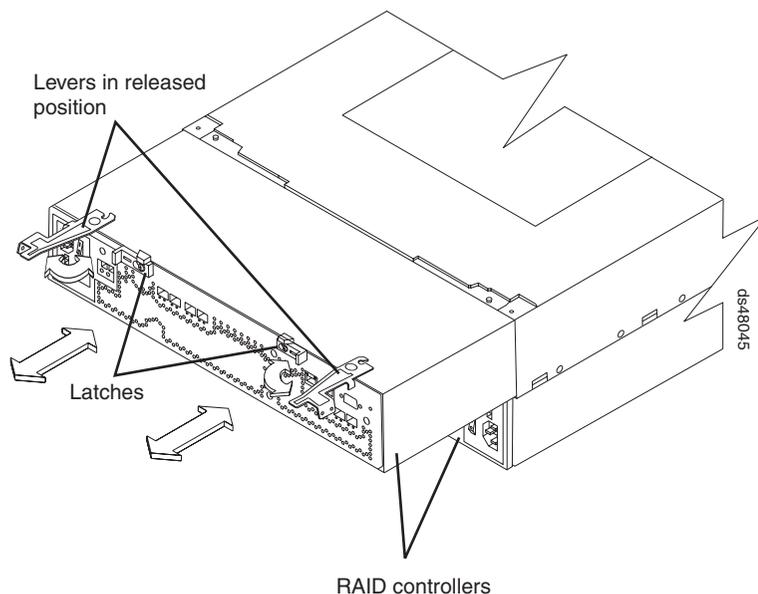

Figure 4. Removing a controller from the DS4800
10. Release the controller levers and remove controller B (bottom controller) from the DS4800 chassis. Figure 4 shows the controller sliding from the storage subsystem chassis. Refer to “Releasing a component lever” in the *DS4800 Installation, User’s, and Maintenance Guide* for more information on unlatching and removing the controller from the DS4800 chassis.